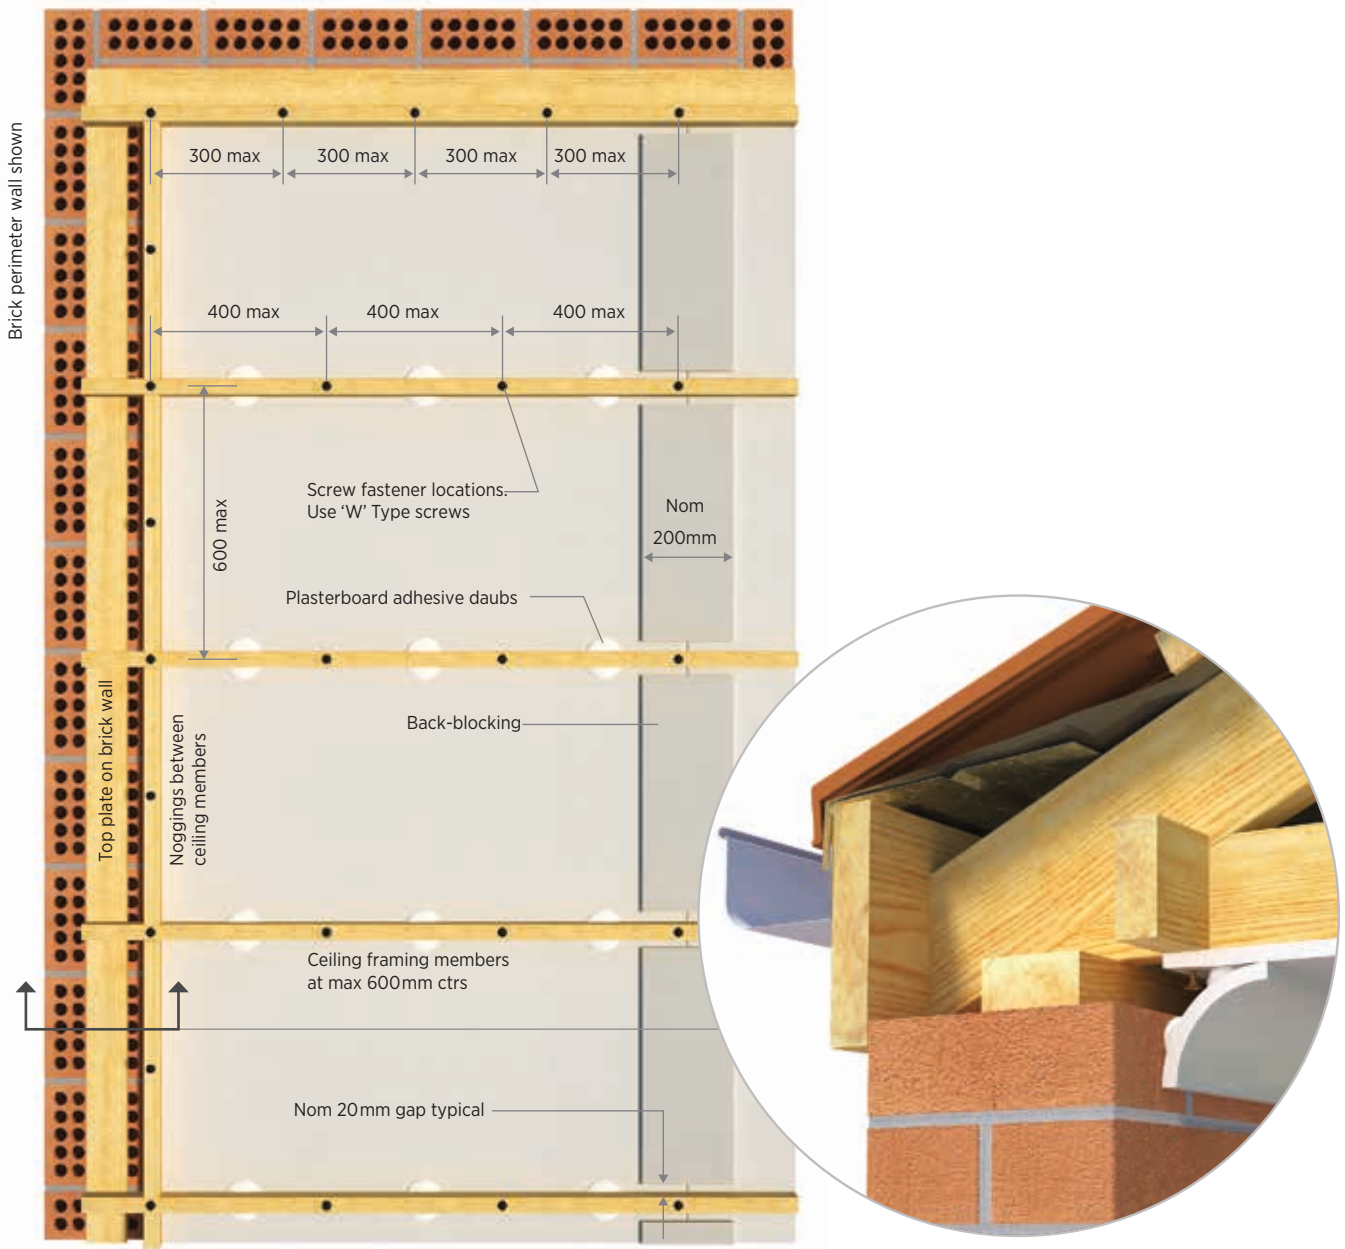

Figure 26: Garage ceiling fixing layout (1200mm wide plasterboard sheets shown)
- Fasten along the perimeter lines @ 300mm max centres as illustrated in Figure 26.